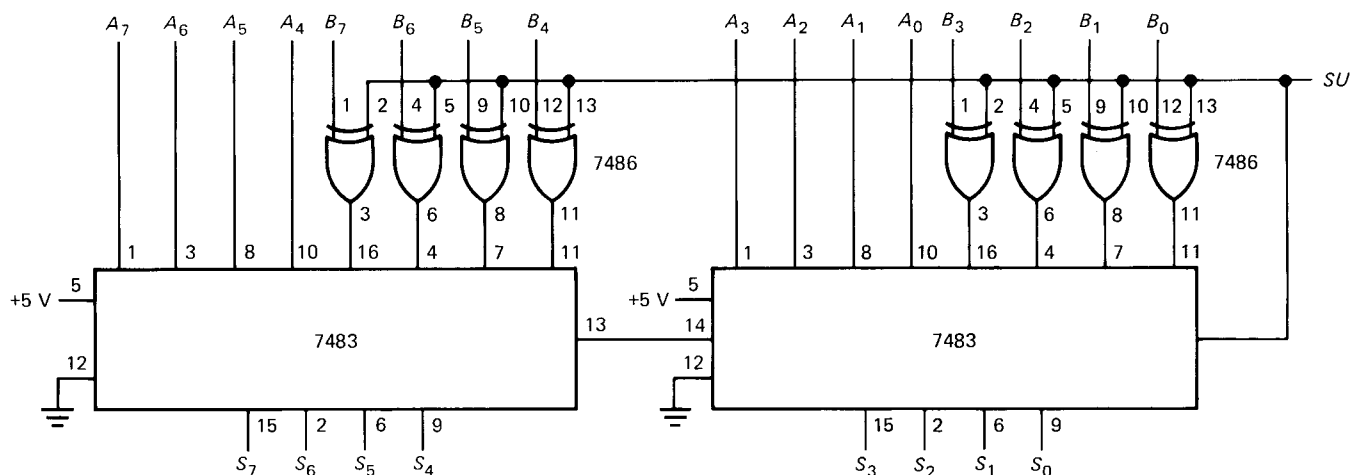

Fig. 6-9
- 6-11. Suppose the inputs to Fig. 6-9 are  $A = 3CH$  and  $B = 5FH$ . What is the output for a low  $SUB$ ? A
- 6-12. In Fig. 6-9 which of the following inputs cause an overflow when  $SUB$  is low?